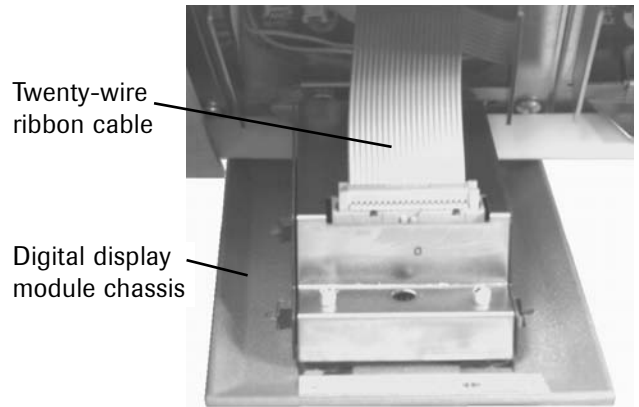

Figure 13
2. Connect the twenty-wire ribbon cable from the interconnect board to the digital display module chassis. Refer to **Figure 13**.